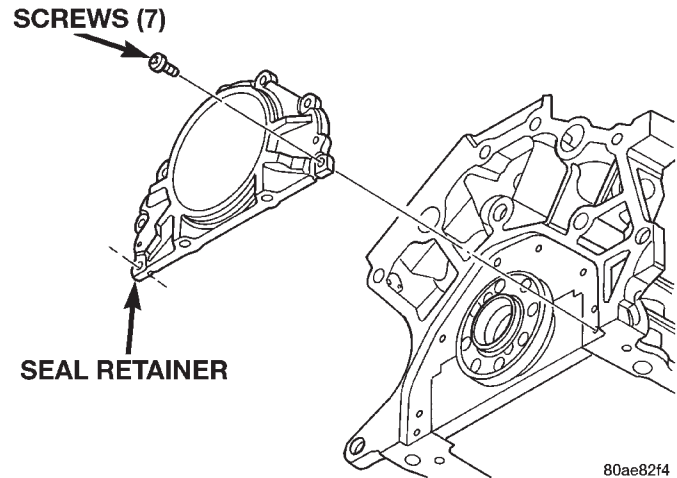

Fig. 84 Oil Seal Retainer
(1) Remove crankshaft rear oil seal and oil pan. Refer to procedure outlined in this section.
(2) Remove seal retainer attaching screws.
(3) Remove seal retainer (Fig. 84).